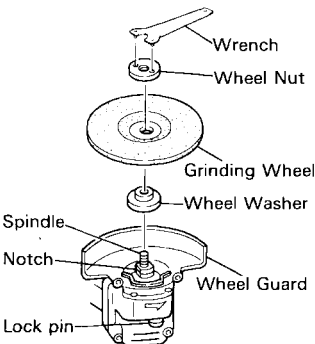

Fig. 3
- (1) Turn the machine upsidedown so that the spindle is facing upward.
- (2) Align the oval-shaped indentation of the wheel washer with the notched part of the spindle, then attach them.
- (3) Fit the protuberance of the grinding wheel onto the wheel washer.
- (4) Screw the wheel nut onto the spindle.
- (5) While pushing the lock pin with one hand, lock the spindle by turning the grinding wheel slowly with the other hand. Tighten the wheel nut by using the supplied wrench as shown in Fig. 3.